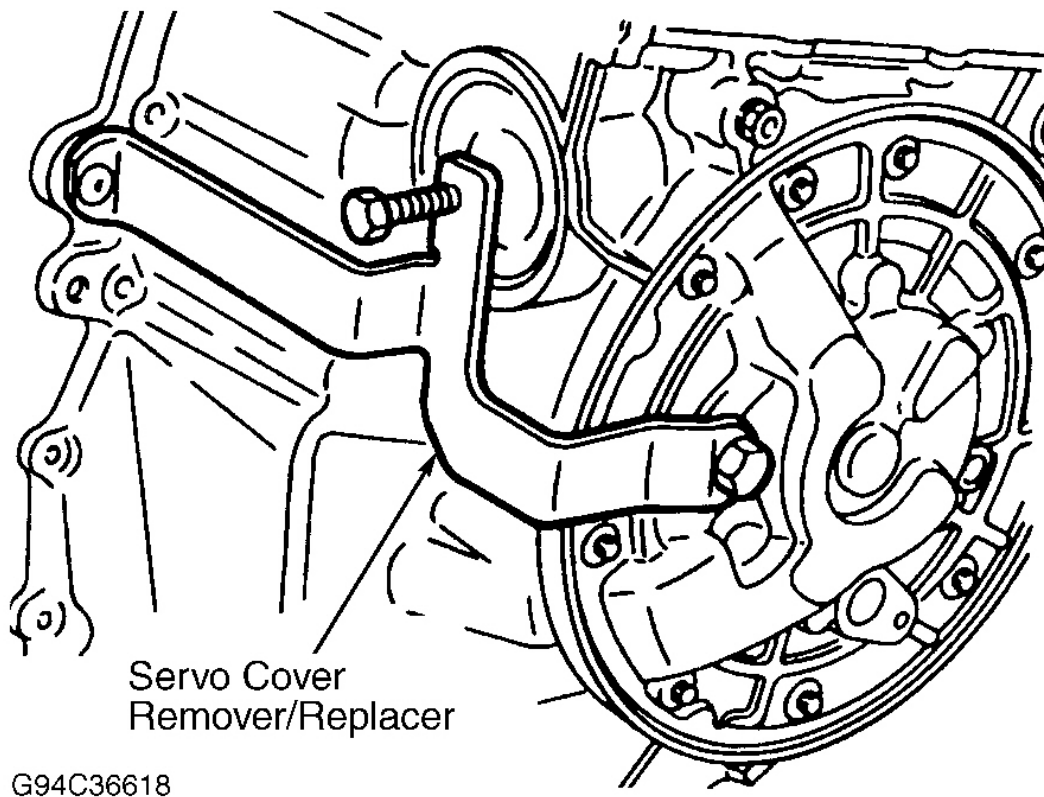

Fig. 4: Compressing Servo Cover Assembly
1. Raise and support vehicle. Remove left front fender splash shield. Using Servo Cover Remover/Replacer (T94P-77000-L), compress servo cover assembly. See **Fig. 4**. Remove retaining ring and release servo cover pressure.